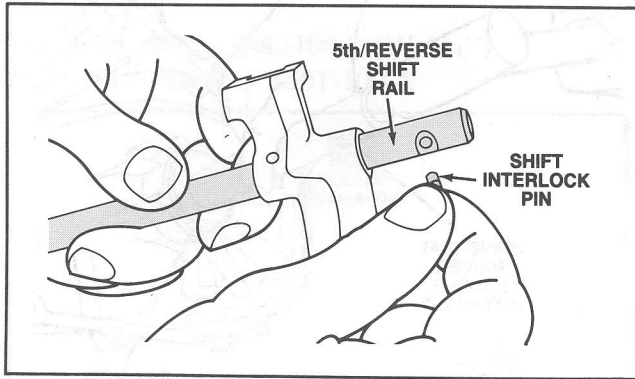

Figure 62 Shift Interlock Pin
2. Remove the interlock pin from the fifth/reverse shift rail. (Figure 62).